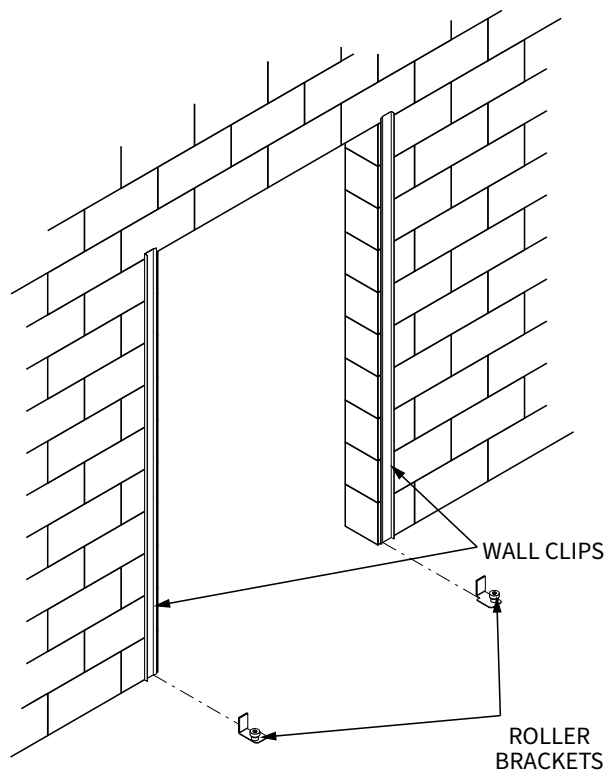

Figure 15: installing wall clips and roller brackets (Bottom roller brackets not present for leading edge on doors with breakout egress option).
2. Attach the left, right or both bottom roller brackets to the wall through the two holes in the bottom of wall clip (Figure 15).